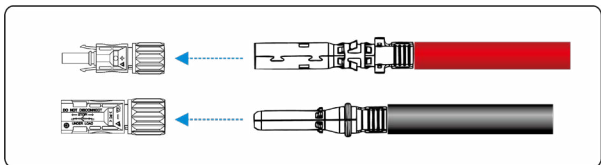

Figure 5.12 Connecting positive and negative connectors
Step 3 Insert the crimped positive and negative power cables into the corresponding positive and negative connectors until a “click” sound is heard, as shown in **Figure 5.12**.